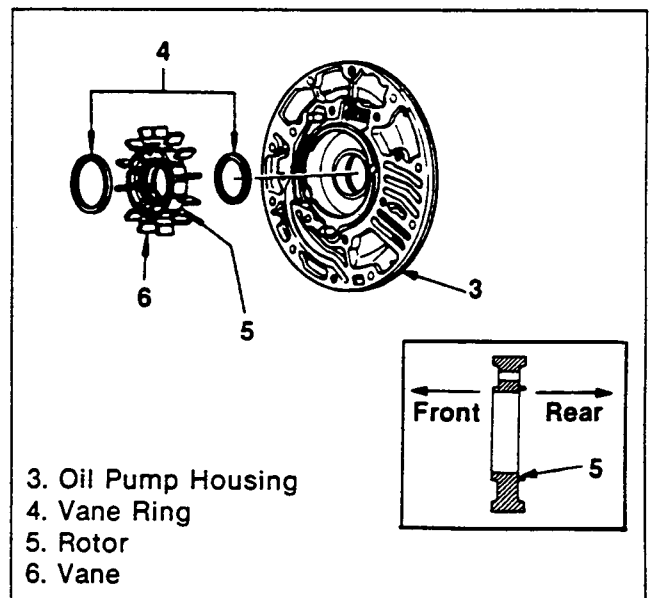

Figure 73. Rotor, Vane and Vane Ring Installation
Rotor, Vane and Vane Ring (Figure 73)
- The rotor must be placed in a particular direction (figure 73).